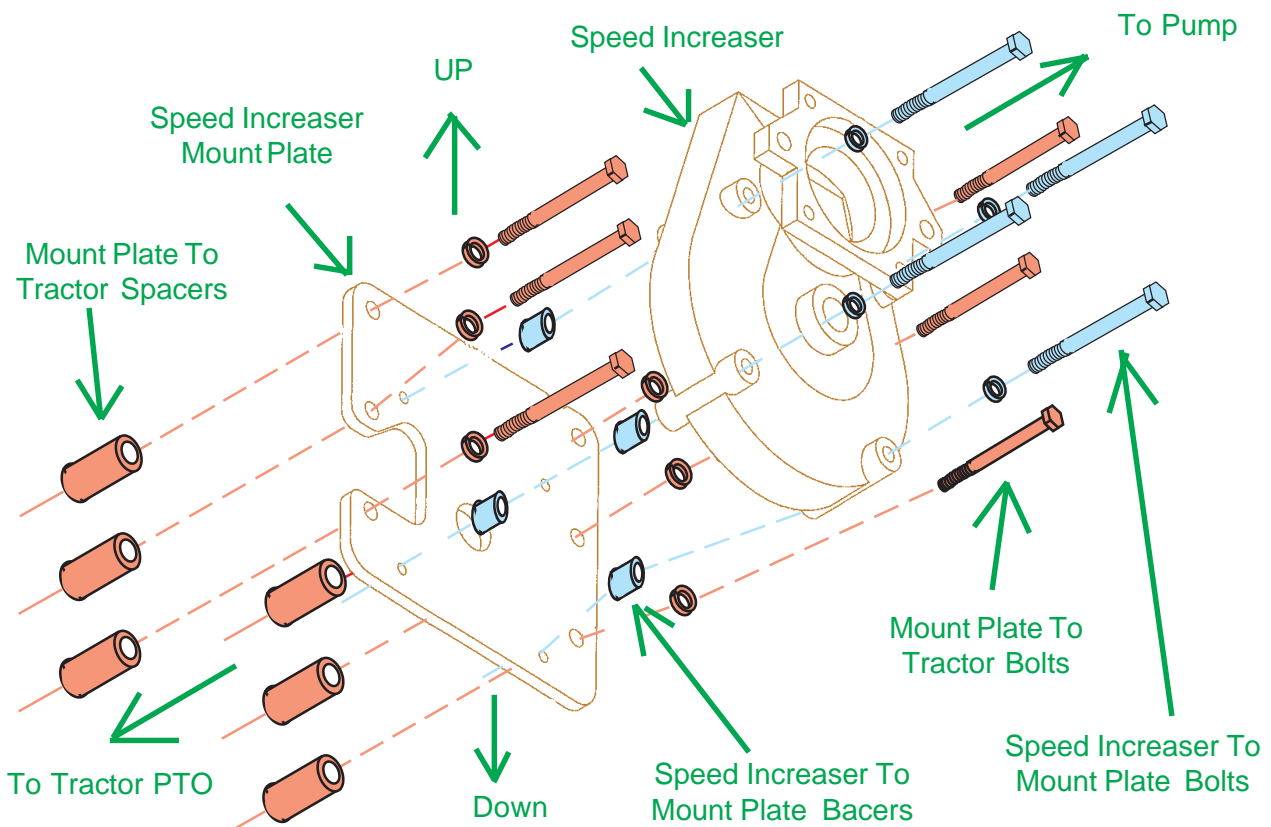

FIGURE 1
2. **Proper Oil Level** - Maintain the oil level within the sight gauge located on the front of the reservoir. Never fill the tank above the sight gauge level. A space is maintained above this sight gauge to allow for the expansion of the oil. (figure 1). Oil is added through the breather cap pressure valve located in the top of the tank. Stand off to one side when removing the breather cap element to prevent possible injury. Remove the breather cap slowly to release any excess air. (figure 2). Remove the pressure cap and add oil. Use one of the following oils: Exxon NUTO H-100; Gulf Harmony 100 AW; or Shell Tellus 100.
3. **Oil Level Low** - Low oil level in the reservoir is caused by leakage of oil. Locate the area of the leak and repair the leak at once. Loss of fluid can cause severe damage to the hydraulic pump and motors (figure 1).
6. If you can not mount the mount plate directly to the tractor use the spacer tubes (**figure 1 - mount plate to tractor spacers**). These tubes should already be to length if a specific tractor mount kit has been ordered, a universal mount kit will require modification, which will be at a later time. Check the ends of the spacer tubes to make certain the ends are cut square, if they are not don't use them replace them with tubes that are square and to length. The spacer tubes must be square cut to keep the speed increaser perpendicular to the PTO shaft. Use a lathe to cut or square the ends of the spacer if necessary. Tubes **MUST** be of sufficient length when mounted between tractor and mounting plate that the **PTO shaft will have a minimum of 2 inches of engagement into speed increaser**. This can be checked by performing measurements of spacers, plate and speed increaser splined sleeve then calculating the distance required.
10. Check the grease level in the speed changer before operating the tractor PTO. Use a recommended grade of oil. A recommended grade is SAE 90W oil with E.P. Additive. Most speed increaser are installed where the pump will mount above the PTO (**figure 1**) but in some case it may require the pump be mounted below the PTO shaft height. If this is the case the breather plug will need to be installed in a different location on one of the side plugs. Normal fill level is the setscrew plug about 1/3 of the way up on the side of the housing. If Speed increaser is turned to the bottom opposite what is shown in figure 1 the level plug will be the one that was on the bottom before and would be just below the center line of the bearings (**figure 3**)
"A" **Old Style Splined adapter:** See figure 1 drawing "A". The old style splined adapter has a snap ring groove on the OD of it and a snap ring, This splined adapter pushes into the speed increaser before the pump is bolted on, the snap ring prevents the splined adapter from sliding inward and outward inside speed increaser is in operation. **DO NOT** use without the snap ring on splined adapter, failure will occur (**figure 2**).
"B" **New Style Splined Adapter:** See figure 1 drawing "B". The new style splined adapter **WILL NOT** have a snap ring groove and **WILL NOT** use a snap ring to keep adapter stationary during operation. The new style used a tube type spacer that is slid into the speed increaser splined adapter is inserted. This tube spacer will keep the splined adapter from sliding. **DO NOT** use without the tube spacer installed, failure will occur (**figure 2**).